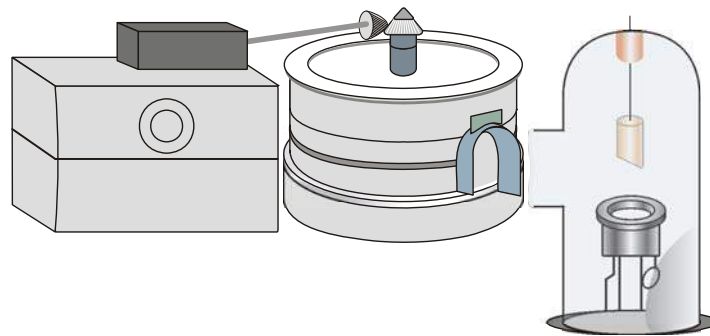

Fig. 8 Debye-Scherrer camera with motor drive
- If required, also set up the motor drive (1019216) as in Fig. 8. Plug its connectors into the 4-mm socket. Make sure the bevel